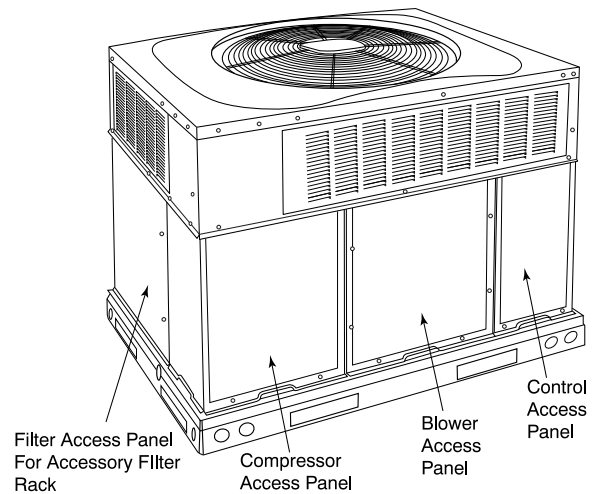
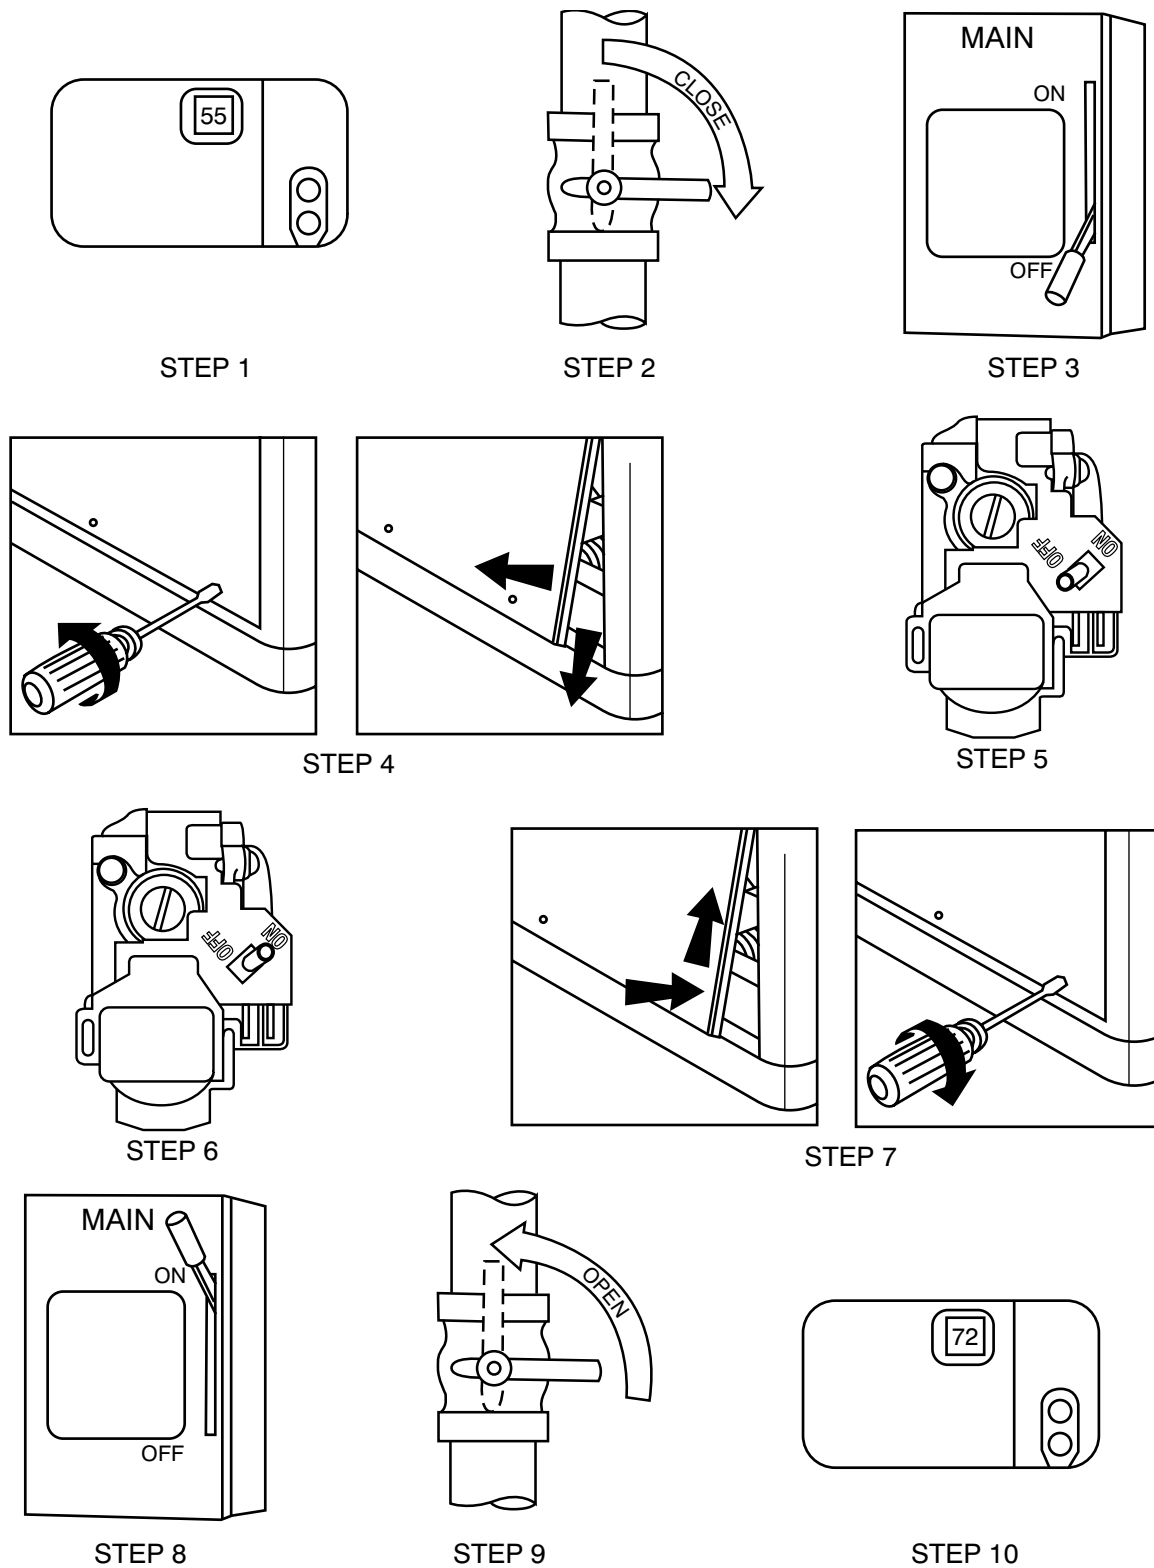

Fig. 2 – Unit Access Panels
Fig. 4 – To Start Unit Gas Heat
Refer to Fig. 2 for location of unit front access panel. Refer to Fig. 4 for location of gas valve. Refer to Fig. 4 while proceeding with the following steps.
4. Remove the control access panel with a 5/16-in. nut driver. (See Fig. 2.)
4. Remove the control access panel. (See Fig. 2.)